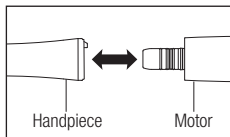

Fig. 1
- 1) Insert the handpiece direct to the motor (Fig. 1). When connecting an optic handpiece, screw the handpiece until it clicks and locks into position.